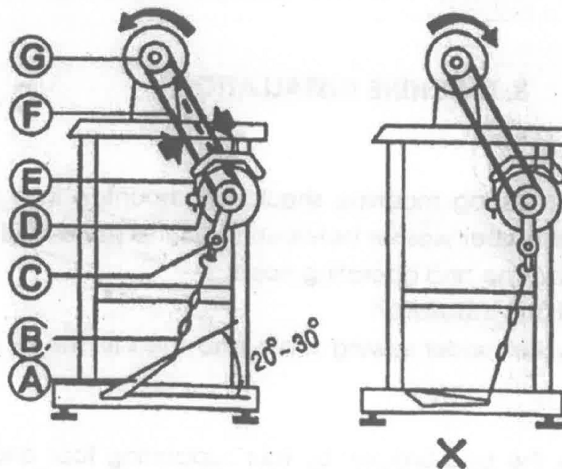

Fig.2
- 5.5 The mounted position of foot pedal can be adjusted according to work habit of operator. Observe the Fig.2.